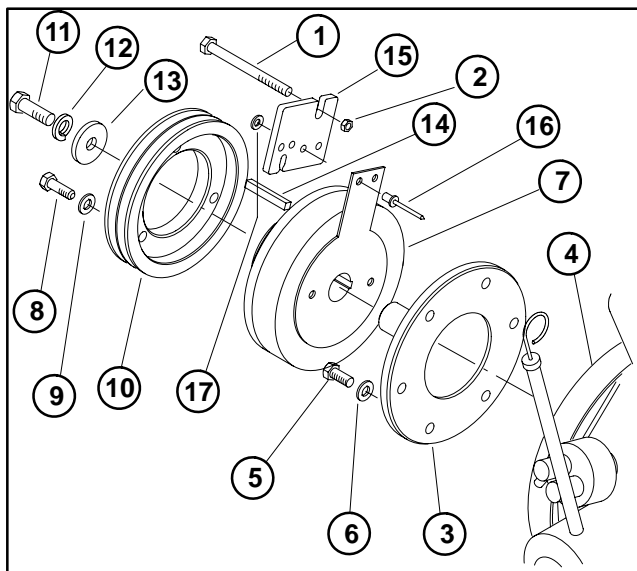
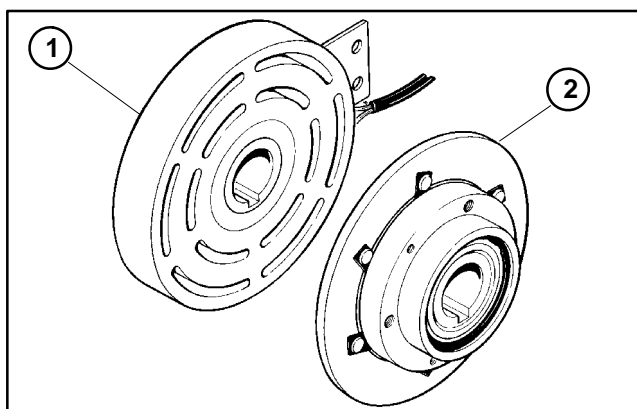

Figure 30
Figure 31
7. Remove long capscrew with the jam nut from engine block. Retain the position of the jam nut on the capscrew (Fig. 30).
8. Remove the spindle with the clutch attached by alternately loosening all spindle capscrews and then pulling on the clutch (Fig. 30). When the spindle is free of the fly wheel, slide it up along the flywheel and rotate it out to clear the traction pedal and foot rest.
9. Remove the capscrews, lock washers, and pulley from the clutch (Fig. 30).
10. Remove the capscrew, lockwasher, and flat washer from the spindle. Slide the clutch and key from the clutch spindle (Fig. 30).
1. When installing an new clutch, remove the wire bracket from the old clutch and install it with the flat washers and new pop rivets on the new clutch. Run the wires through the bracket and tie wrap to them to the bracket as on the original clutch. **Make sure wires are tight against the clutch wire bracket or they will catch in the spindle bolts** (Fig. 30).
2. Make sure the spindle is free of dirt and rust. Insert the capscrews with flat washers through the spindle base from the shaft side (Fig. 30).
3. Apply never seize to the spindle shaft and keyway. Slide the clutch rotor (Fig. 31) onto the spindle shaft with the bracket side towards the spindle base (Fig. 30). Make sure that the capscrews with the flat washers stay in the spindle holes.
4. Apply never seize to the key. Insert the key into the keyway. Slide the armature (Fig. 31) onto the shaft and key (Fig. 30).
5. Place the the capscrews through the lock washers and secure the pulley to the clutch. Place the lock washer and large flat washer onto the capscrew and secure them to the shaft; torque from 40 to 50 ft-lb (Fig. 30).
6. Place the clutch and spindle up to the flywheel. Screw one of the capscrews into the flywheel to support the spindle during alignment. Secure all the capscrews while pushing the spindle into the flywheel; tighten in a crisscross pattern (Fig. 30).
7. Align the wire bracket with the long capscrew into their original position. Secure the long capscrew and jam nut through the bracket into the engine block (Fig. 30).